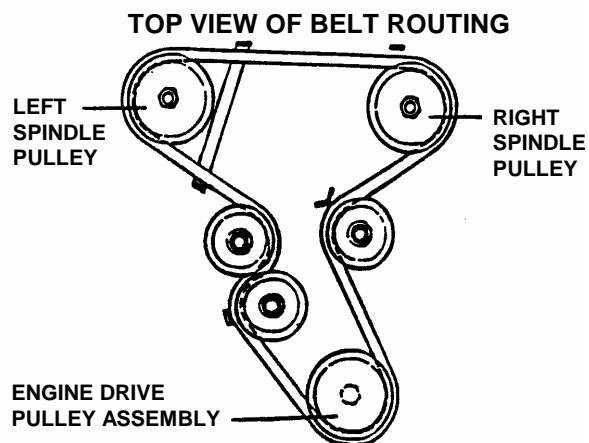

FIGURE 3.4
4. On 42" models, check belt for excessive wear or damage; there are no adjustments to tighten belt on these models. See Figure 3.4. If belt is too loose to operate mower satisfactorily then a new belt will have to be installed. Refer to Section "MOWER DRIVE BELT REPLACEMENT".